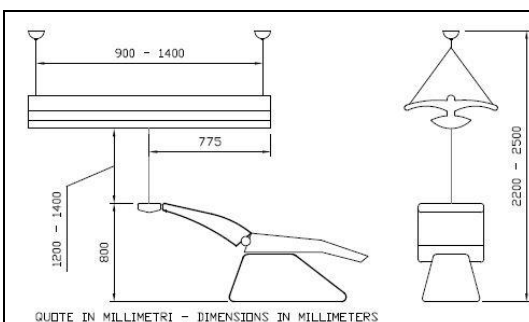

Figure 3 - *Figure 3*
- Make 2 holes in the ceiling at a distance from each other of 1200 – 1500 mm. We suggest to place the light fixture, in relation to the dentist station, according to the indications reported in figure 3.